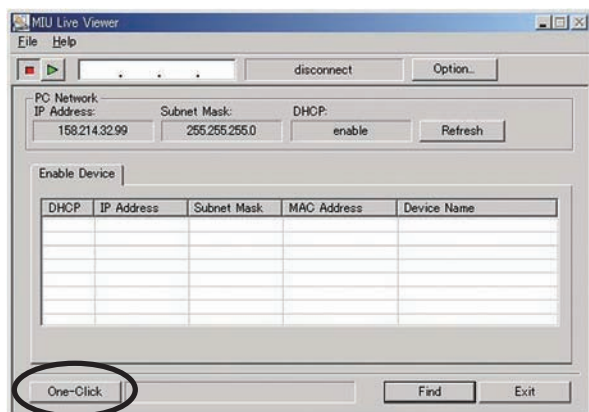

Fig. 2.2.a “MIU Live Viewer” initial window
• If you like to set these items, please set again from WEB (19).
3) Start up “MIU Live Viewer”. Window appears in fig. 2.2.a. (Refer to section 3.1 how to use “MIU Live Viewer”).
- 4) Click “One-Click” button in fig. 2.2.a. Projector is found. Then capture start button  is pushed and real time display is started automatically.
- 3) Start up “MIU Live Viewer”, then the window appears (shown in fig. 2.2.a).
- 4) Click “One-Click” button as shown in fig. 2.2.a. Then projector will be found and the capture start button  is activated then real time display is started automatically.